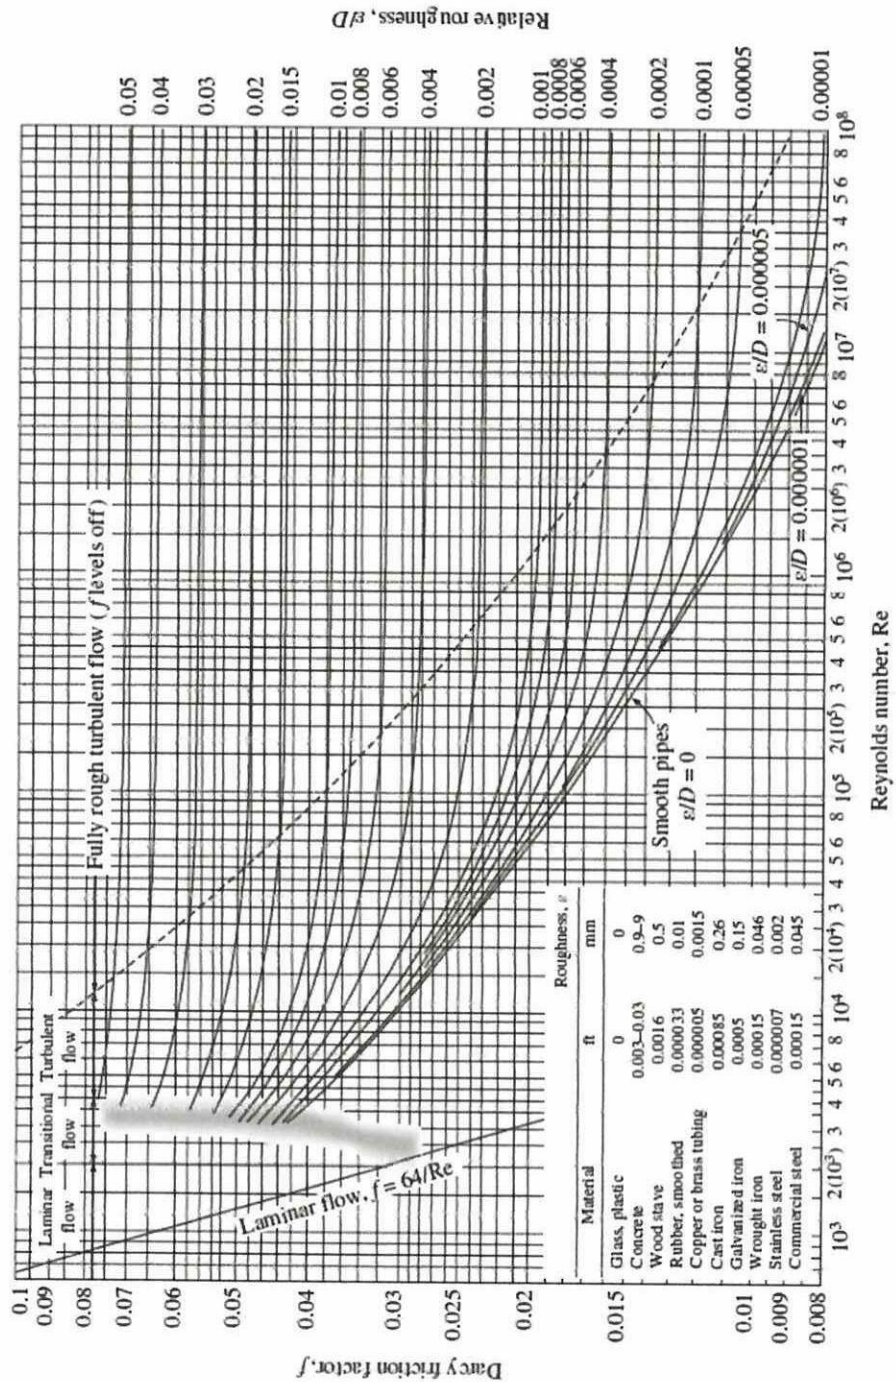

Figure Q5 : Moody Chart
- (i) Calculate gauge pressure at point 1 to deliver 0.005 m³/s of water into the reservoir. Use Moody Chart in **Figure Q5** to find the friction factor. (16 marks)